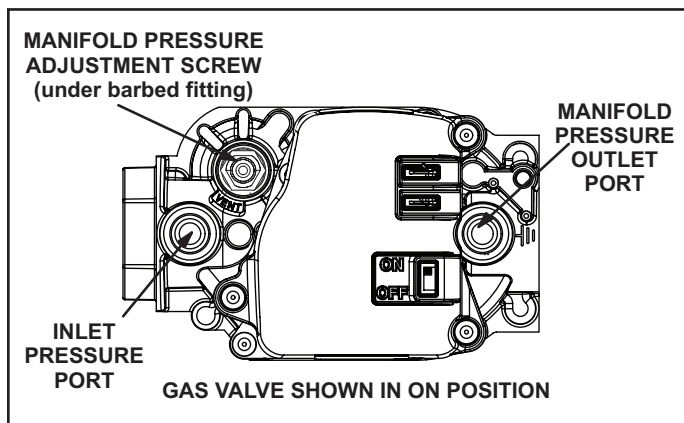

Figure 15. Gas Valve
Gas Valve Operation (Figure 15)
6. Move gas valve switch to OFF. See Figure 15.
8. Move gas valve switch to ON. See Figure 15.
4. Move gas valve switch to OFF position. Do not force. See Figure 15.